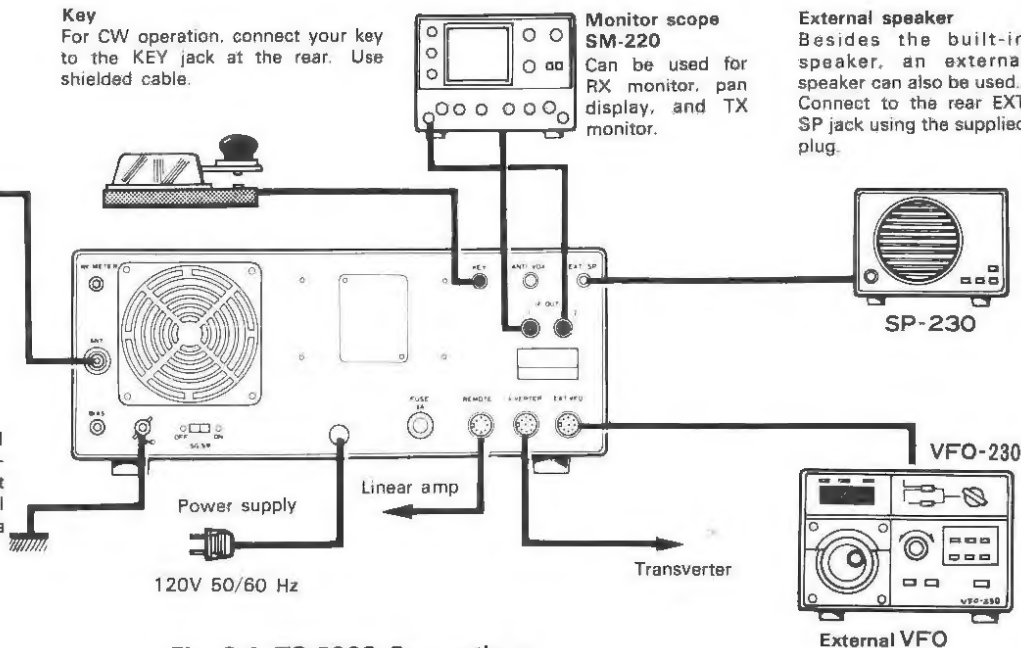

Fig. 2-1 TS-830S Connections
2.3 CABLING (See Figure 2-1.)
Attach the microphone connector to a suitable microphone, as shown in Figure 2-1. Be sure the microphone PTT switch is separate from the microphone circuit, as shown in Figure 2-1A.
The four pin connector allows use of a microphone with PTT. Figure 2-1 shows plug wiring.